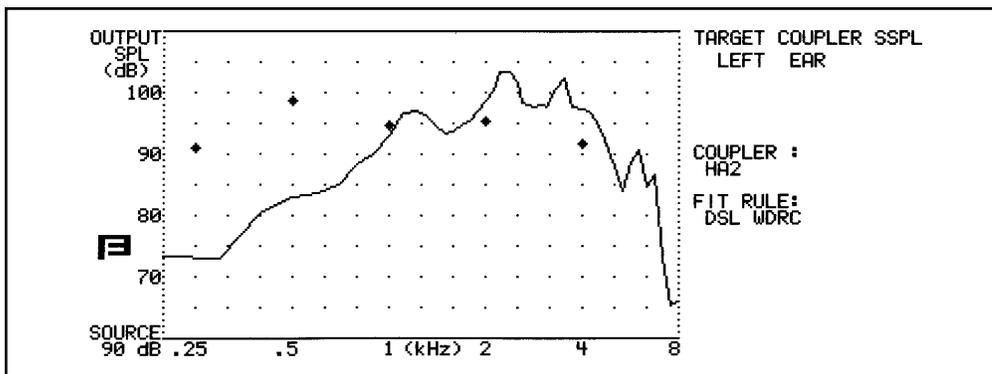

Figure 5.6.2B—SSPL measurement with DSL predicted upper limits of comfort
12. Press [START/STOP] to take a pure-tone 90 dB measurement. If the resulting measurement is higher than the target symbols, those sounds will be uncomfortable for the patient. Try to adjust the aid so the measurement only reaches at or below those symbols. See Figure 5.6.2B.